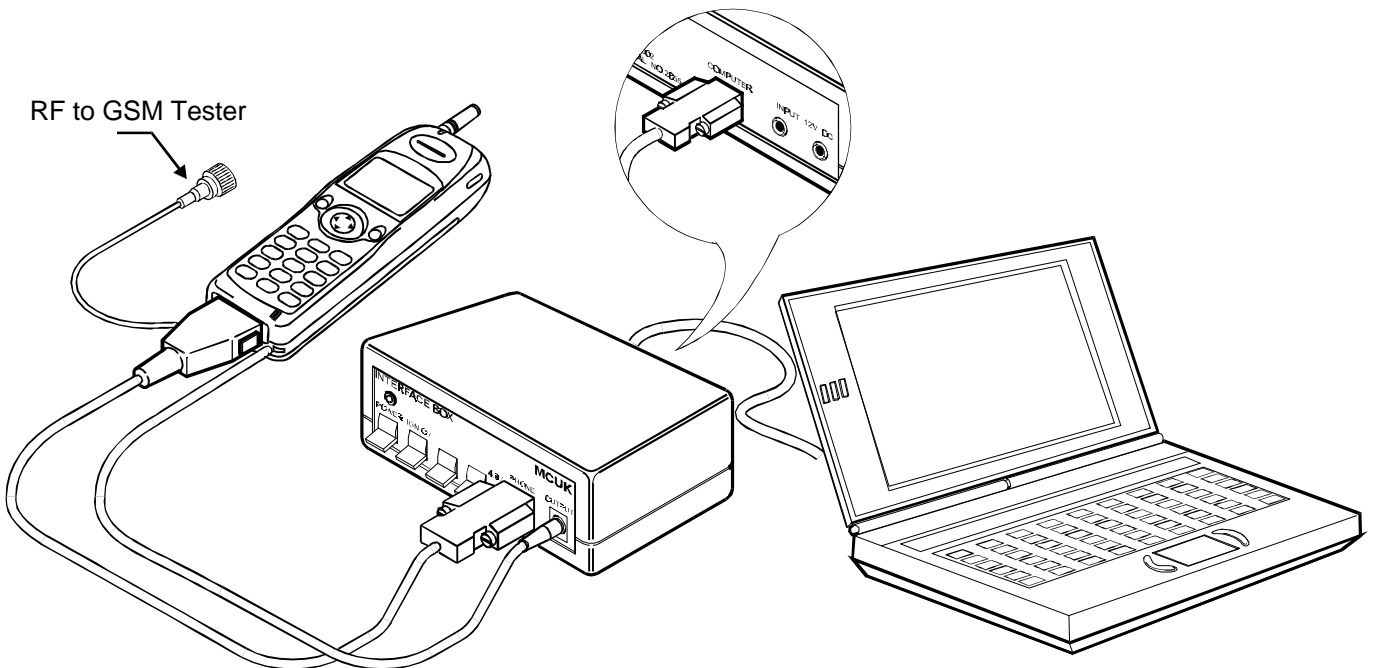

Figure 5: External test equipment setup
To allow accurate measurement of the complete unit the test equipment must be connected as shown (figure 5). The PCB Test Setup must be used to enable repair to PCBs. Once repair/replacement is complete, the assembled unit must be tested and calibrated with the jigs and tools connected as shown in figure 5.
Figure 5 shows a typical setup for testing the G600 unit. The channel box software (supplied on floppy disk) should be installed onto the main drive of the personal computer.
1. (Figure 5) Connect the test equipment into test mode configuration.